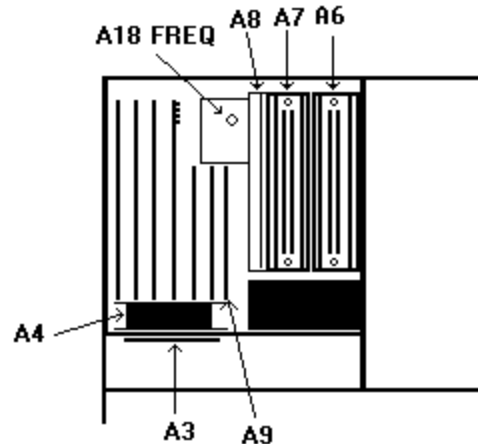

Figure 1. Test instrument - top view.
- (1) Connect time/frequency workstation **OUTPUT 1 MHz** to frequency difference meter **REF INPUT**.
- (2) Connect TI **FREQ STD OUTPUT 10 MHz** (rear panel) to frequency difference meter **SIG INPUT**.
- (3) Adjust A18 FREQ ADJ (fig. 1) for minimum difference indication on frequency difference meter.